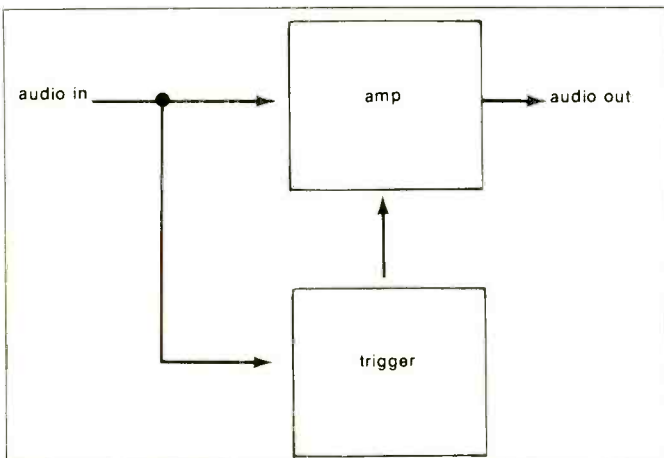

Figure 1
**BASIC NOISE GATE THEORY.** A noise gate comprises two separate circuit blocks (see *Figure 1*). One block is a variation on the amplifier; this particular type of amplifier is designed so that it can be electronically squelched if desired, thereby preventing a signal from reaching the output. Thus, the amp is like a gate in that it can either pass a signal when the “gate” is open, or prevent the signal from passing when the “gate” is closed.